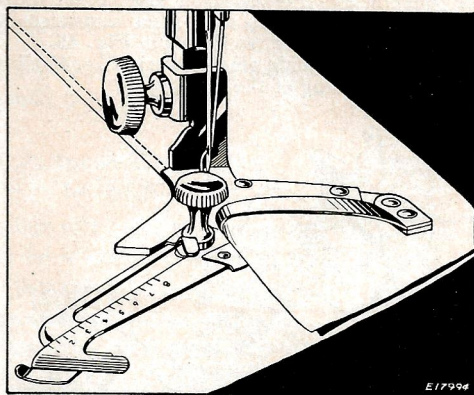

FIG. 44. SHOWING HOW ADJUSTABLE HEMMER IS USED FOR MAKING HEMS WIDER THAN 15/16 INCH
- (1) Loosen the thumb screw on the hemmer, move the scale to the right as far as it will go, then swing it toward you, as shown in **Fig. 44**, and tighten the thumb screw.
- (2) Fold and crease the desired width of hem.
- (3) Place the fold under the extension at the right of the hemmer and the edge into the folder, as shown in **Fig. 44**.
- (4) Draw the end of the hem back under the needle, lower the presser bar and start to sew.
- (5) Guide the cloth to keep the hem flat.